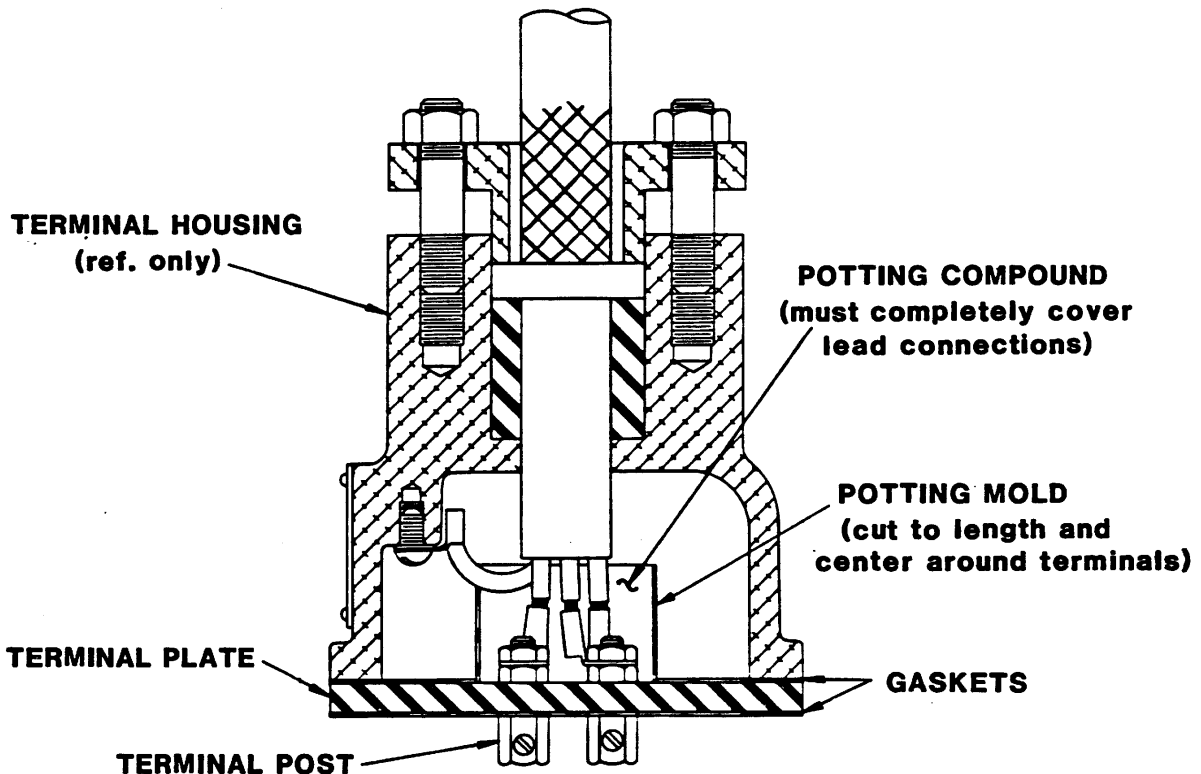

Figure 4. Potting Power Cable Leads In Terminal Housing
When shipped from the factory, the cable leads and terminals were encapsulated in heat-shrink tubing (43) and bonded to the terminal plate (47) with hot-melt adhesive to provide a water-tight seal. Since these materials and heating equipment are not generally available in the field, it is recommended that a repotting kit available from Gorman-Rupp (see optional equipment in parts list) or a commercially available kit (Products Research Corp., part no. PR-1201-A Class 1 potting compound, or equivalent) be used to reseat the connections. See Figure 4, and the following instructions.
Trim the potting mold so it is just long enough to cover the terminal post studs (see Figure 4). Slide the potting mold up over the three standard leads of the power cable (36).